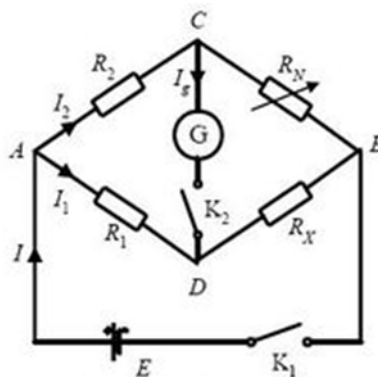

Fig.1: Wheatstone bridge circuit
**Wheatstone bridge:** It is a bridge circuit proposed by Wheatstone in 1843. It consists of four resistors and a galvanometer.  $R_N$  is a precision resistor, and  $R_X$  is the resistor to be measured (Figure 1). After the circuit is connected, adjust  $R_1$ ,  $R_2$ ,  $R_N$  to make the current of the galvanometer zero, and the bridge is balanced. At this time,  $R_X = R_1 \times R_N / R_2$ .  $R_X$  is obtained by the exchange measurement method (exchange the position of  $R_N$  and  $R_X$ , and do not change  $R_1$ ,  $R_2$ ).